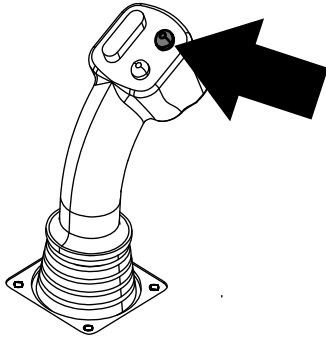
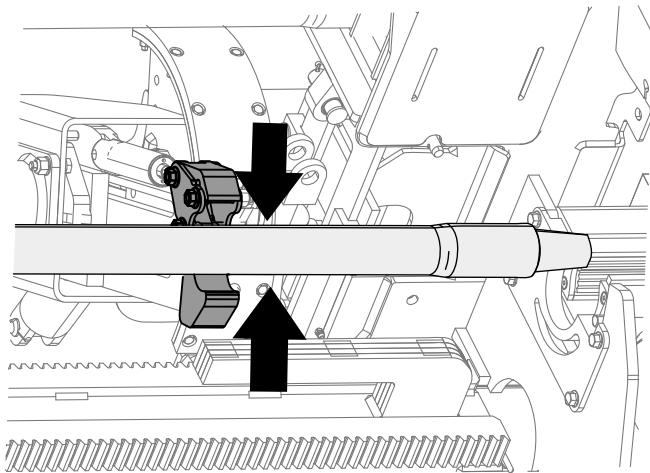

Figure 11
Figure 12
6. Hold the upper button on the joystick to grip the pipe (Figure 11 and Figure 12) and release the button.